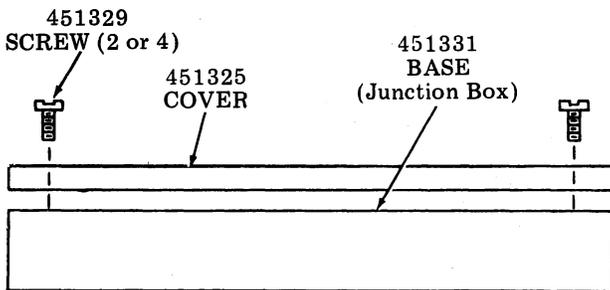

Fig. 91
① Route the display base cable from the display to the underside of the table through the slot between the rear skirt and the table top. Avoid unnatural twisting or capturing of the display branch so that smooth travel of the cable will occur when the display is slid on the table.
② See Fig. 91. Remove the two 451329 screws and the cover from the junction box, (Fig. 90). Assemble the junction box (observe orientation of cables) to the underside of the table top, using two 407217 screws.
③ 45K301 only: Route the 9-pin connector branch of the cable from the junction box to the right-hand hole in the keyboard bracket and insert the connector (keyway up). The 9-pin connector branch of the cable should be under the display branch.
④ Install two 341711 cable clamps for the 9-pin connector branch of the cable to the underside of the table top and slip the cable into the clamps.
- ① Remove two 451329 screws (early design cable), four 451329 screws (late design cable) and the cover from the junction box, which is part of the 452015 cable. Retain the cover and screws. See Fig. 91.